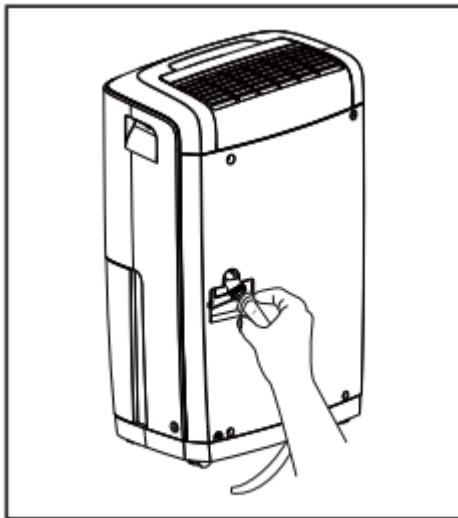

fig. 2
c. Insert the female threaded end of the hose onto the drain connector of the unit. (fig. 2)